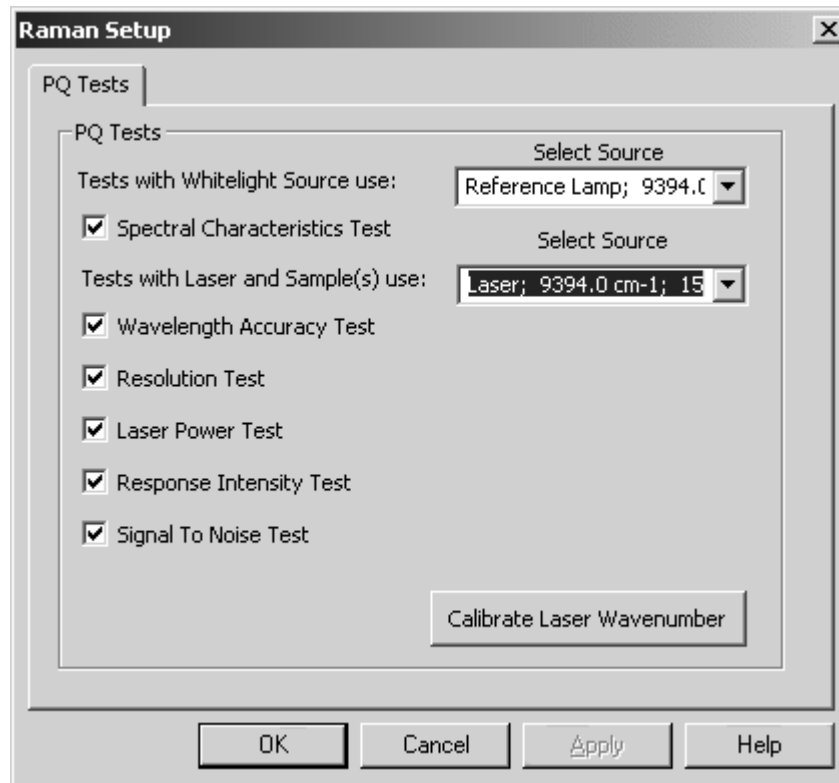

Figure 6: PQ test setup for Raman
- 2) Click on the *Calibrate Laser Wavenumber* button (figure 6). Note that this button is accessible in both OQ and PQ setup dialogs.